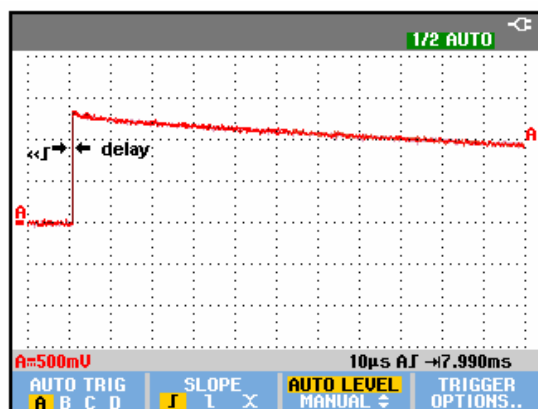

Figure 4-7. Time Base Verification
5. Examine the rising edge of the time marker pulse at the height of the trigger level indicator top. Verify that the rising edge is at the second grid line from the left. The allowed deviation is ± 3 pixels, see Figure 4-7.
9. Examine the rising edge of the time marker pulse at the vertical height of the trigger level indicator top. Verify that the rising edge is at the second grid line from the left. The allowed deviation is ± 3 pixels, see Figure 4-7.